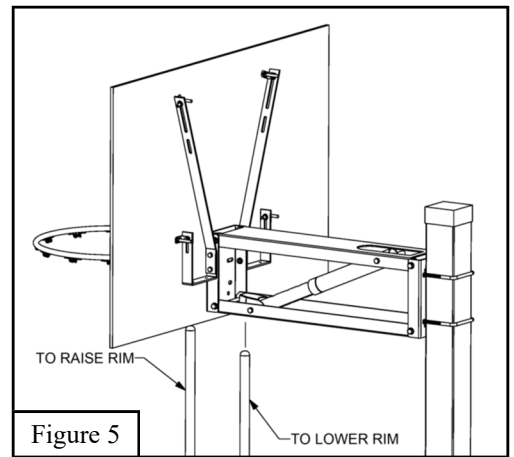

Figure 5
**TO RAISE GOAL:** Place the end of a suitable lifting pole (I.E. broom handle) under the rim or backboard and push upward until desired height is reached. The mechanism will automatically lock in one of the fixed adjustment positions as unit is lowered slightly. See Figure 5.
**TO LOWER GOAL:** Place pole into the black release cup of the adjustment mechanism, push upward to release, then lower the goal to the lowest position. The mechanism will not lock at intermediate positions on the way down as long as the cup is depressed. QWIK-CHANGE is designed to adjust from 7 1/2' to 10' in 6" increments. See Figure 5.
29. Raise the *Rim* (N) to the highest position and measure the distance from the top of the *Rim* (N) to the playing surface. If necessary, adjust to the official 10' playing height by loosening 1/2" *Hex Nuts* (E) on the 4" *Square U-Bolts* (B), then slide the entire unit up or down the pole assembly. **USE CAUTION NOT TO DROP UNIT DOWN THE 4" SQUARE POLE (P) RISKING PERSONAL INJURY OR DAMAGE TO THE POWDER COATED FINISH ON THE POLE.** Retighten 1/2" *Hex Nuts* (E) once you have achieved 10'.
30. Place *Pole Cap* (K) on top of the pole assembly to keep out water. Install *Net* (N) and *Pole Pad* (Q).